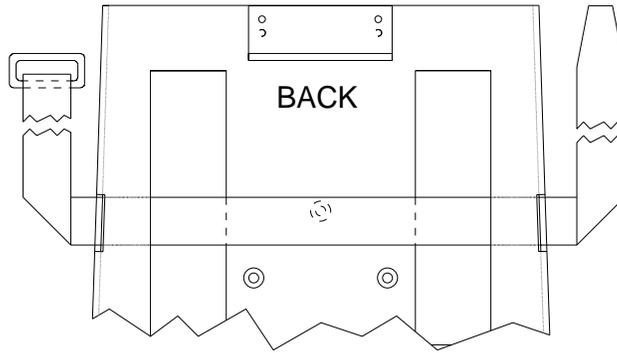

Figure 1, Monitor Base Plate
12. Place the monitor on the monitor base plate shown in Figure 1. Slide it back against the back bracket